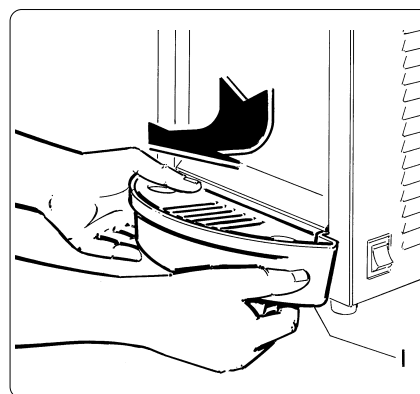

Fig. 9
- To remove the liquid drip tray, slightly lift the front part, then pull it outward (fig. 9).